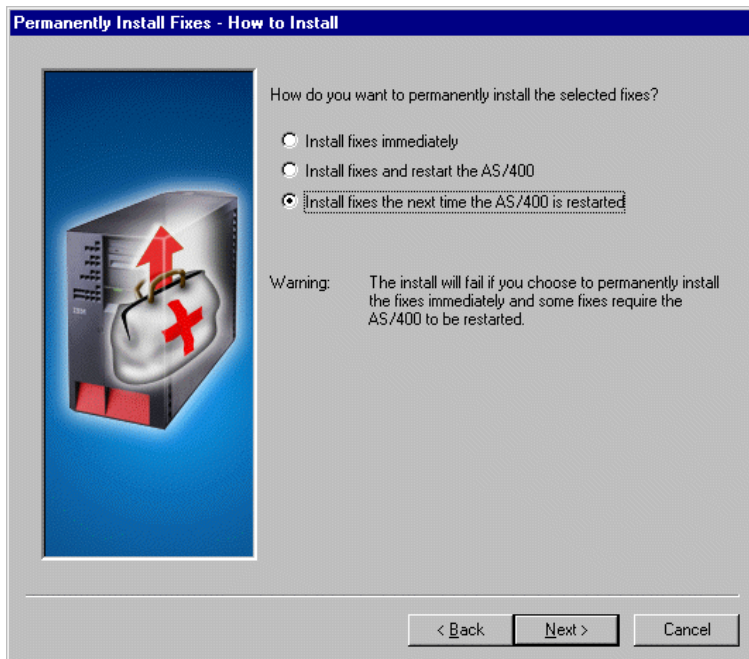

Figure 97. Permanently Install wizard: How to Install window
- After verifying the information, click **Next** to move to the How to Install window, which is displayed in Figure 97.